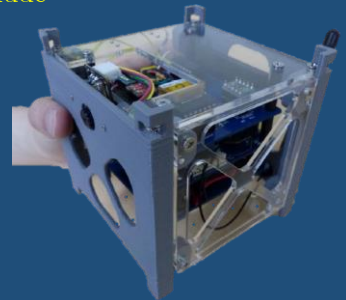

Fig.4 HEPTA-Sat kit
- HEPTA stands for “**H**ands-on **E**ducation **P**rogram for **T**echnical **A**dvancement”. Our laboratory developed this HEPTA-Sat(Fig.4) so that people who are interested in space engineering can learn it.